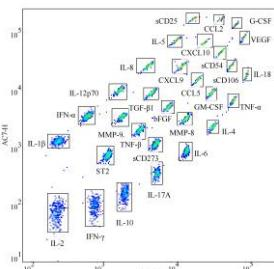

Figure 2
3) Establish Create an APC-H/APC-Cy7-H scatter plot. Identify the individual bead populations from the main P1-gated bead cluster population, identify individual bead populations and gate each specific cytokine-specific bead population using rectangular gates, as shown in (Figure 2).